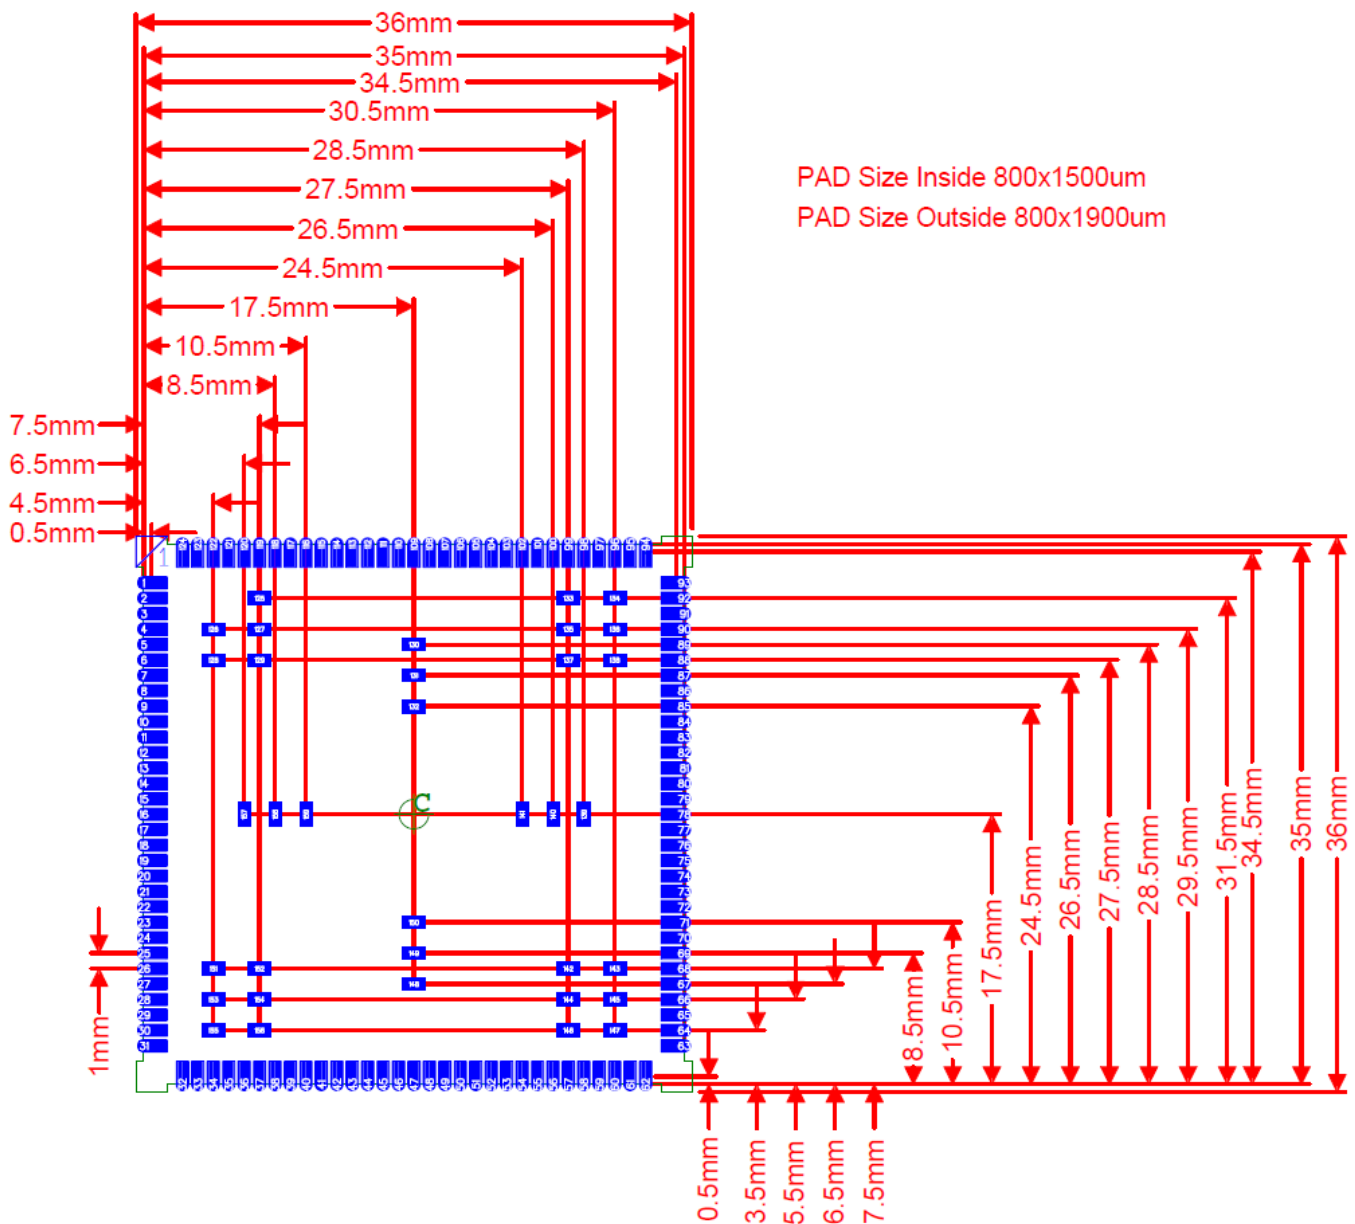

Figure 12: Physical Dimensions (bottom view)
The physical dimensions of the square phyCORE-i.MX 6UL/ULL are represented in Figure 12. The module's profile is max. 2.9 mm thick, with a maximum component height of 1.2 mm (microcontroller) on the top side of the PCB. The board itself can be easily soldered direct onto your carrier board.
The phyCORE-i.MX 6UL/ULL SOM can be directly soldered onto your carrier board. The dimensions of the half-hole connector and its footprint underneath can be found in Figure 12.
3. the link “Carrier Board” within the category Dimensional Drawing leads to the layout data as shown in *Figure 12*. It is available in different file formats. Use of this data allows to integrate the phyCORE-i.MX 6UL/ULL SOM as a single component into your design.